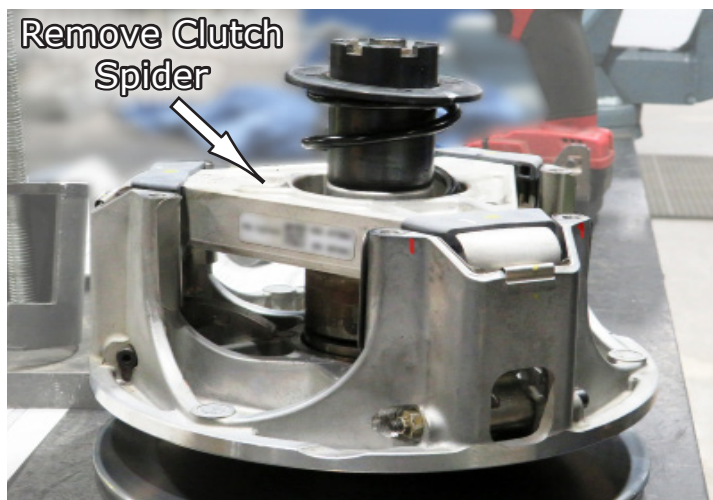

Fig.22
23. Now remove the tool and Spider from the clutch accessing the Weights that you will be changing out with your new ones. See **Fig.22**.